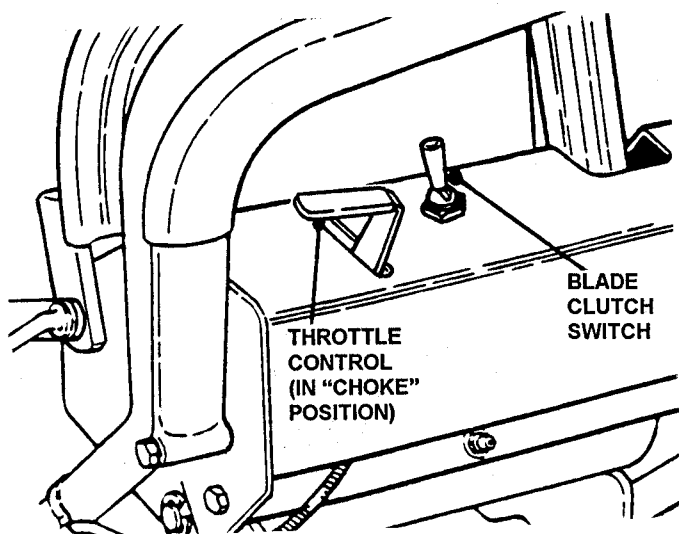

FIGURE 9
5. Move Throttle Control Lever to **CHOKE** position. See Figure 9. **NOTE:** Briggs Engines have a remote choke located on the left side of tank bracket. Choke is NOT part of Throttle Control Lever.